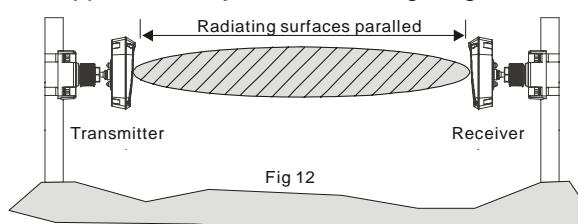
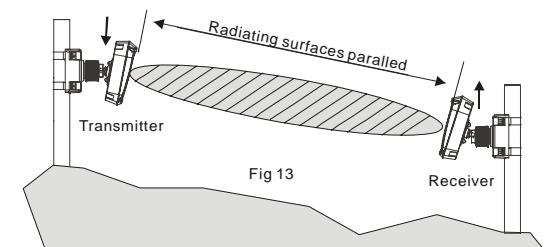

Fig 12
Fig 13
- Refer to fig. 12~14 to make the R and T aligned.
After installation, adjust the receiver and transmitter to a face-to-face status. Make sure that the antenna's radiating surfaces of R and T are parallel (radiating surface is perpendicular to the virtual direct line). Fig. 12 is the correct installing height, fig. 13 is supposed to adjust the installing height.